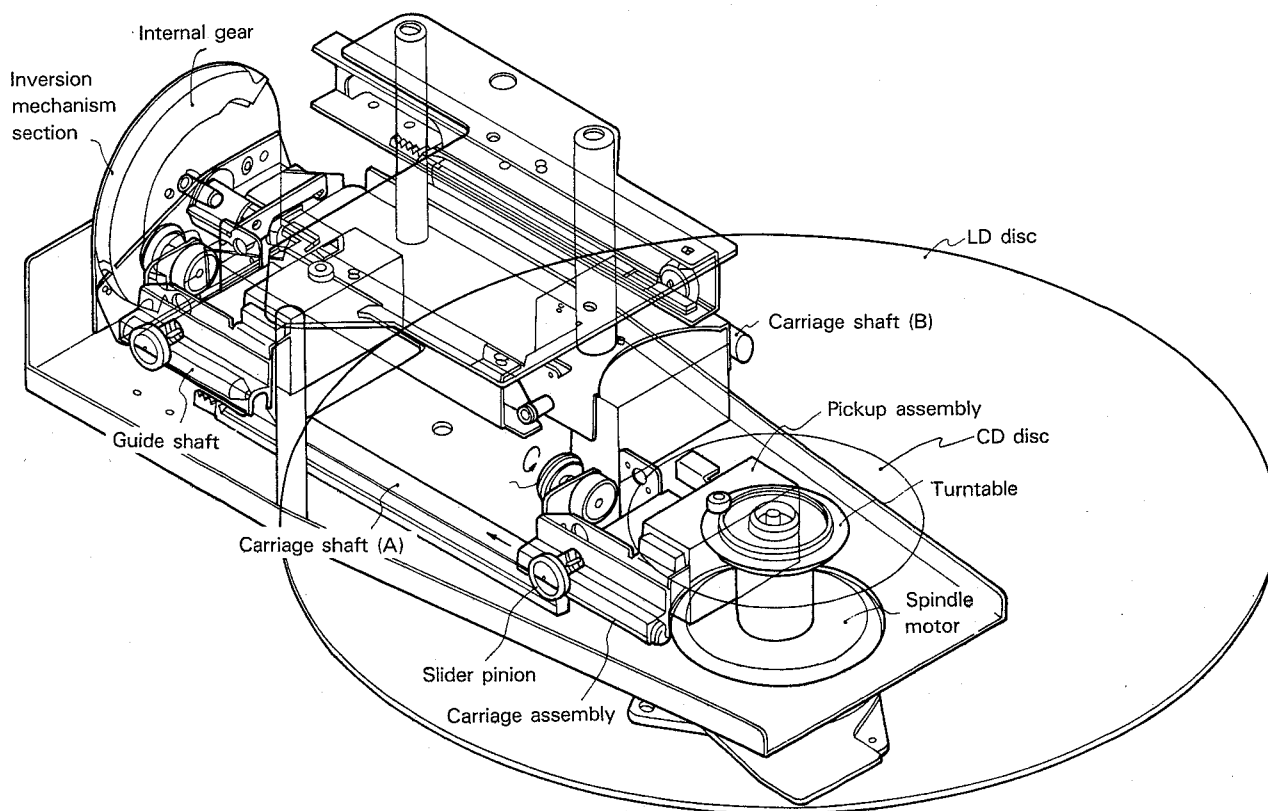

Fig. 1-1-2 Overall diagram of the “Alpha-Turn” both-sides playback mechanism
Fig. 1-1-2 is a diagram showing the outline of the “ α -turn” system both-sides playback mechanism. In this system, since the two carriage shafts (A) and (B) are securely fixed along the upper and lower surfaces of the disc, while the guide shaft in the inversion mechanism is located on the same axis with respect to each carriage shaft (A) and (B) when playing both sides A and B, the transition of the carriage assembly can be performed smoothly.